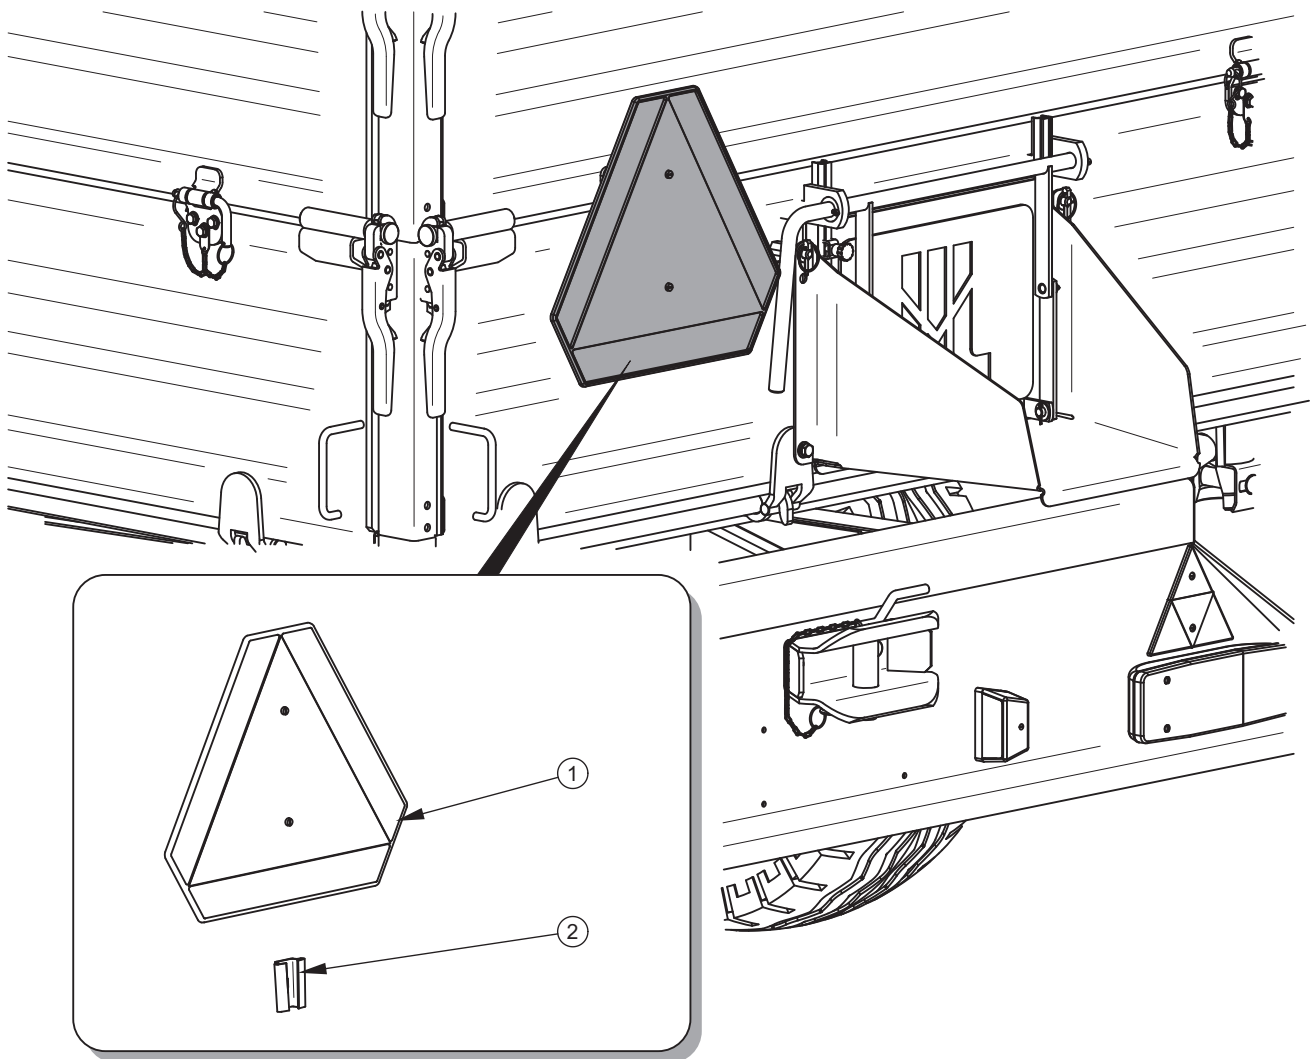

FIG. 2.2 **Mounting place for slow-moving vehicle sign**
- If the trailer is the last vehicle in the group, a slow-moving vehicle sign should be placed on the trailer's rear load box wall – (figure 2.2). The warning sign (1) should be attached using the specifically prepared holder (2), riveted to the rear wall of the load box.